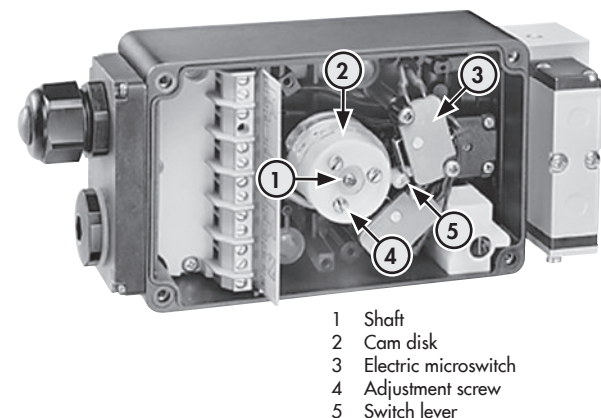

Fig. 4: Electric microswitches
The limit switch with electric microswitches (Fig. 4) has a maximum of three adjustable cam disks (2) on the shaft (1). The cam disk activates the electric microswitch (3) over the roller on the switch lever (5). The cam disks can be adjusted to a switching point between 0 and 180° at the adjustment screws (4).